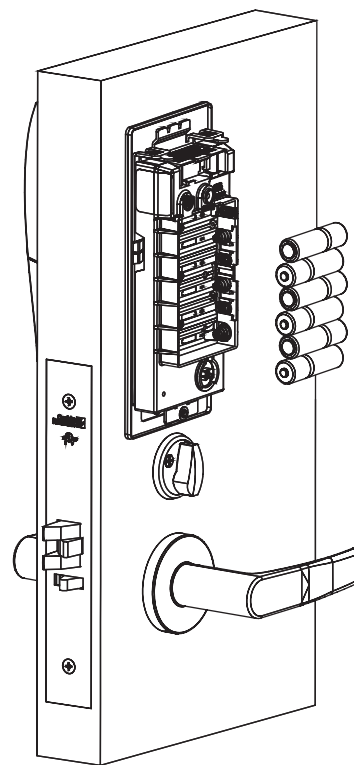

Fig. 18
- a. Place (6) "AA" alkaline batteries in the compartment, being careful to align polarity properly (Fig. 18).